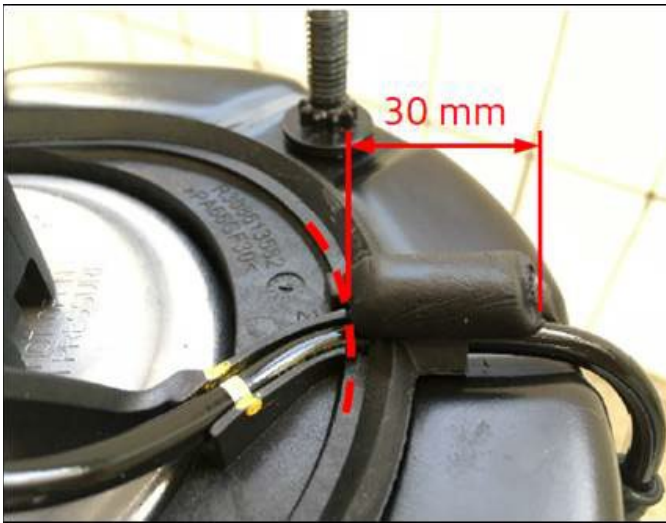

Figure 1. The butyl adhesive sealing cord is placed along the cable feed through on top of the air spring strut.
- Place butyl adhesive sealing cord (AKD 497 010 04 R10, 30 mm long) on cable feed-through on top of air spring strut (refer to figure 1).